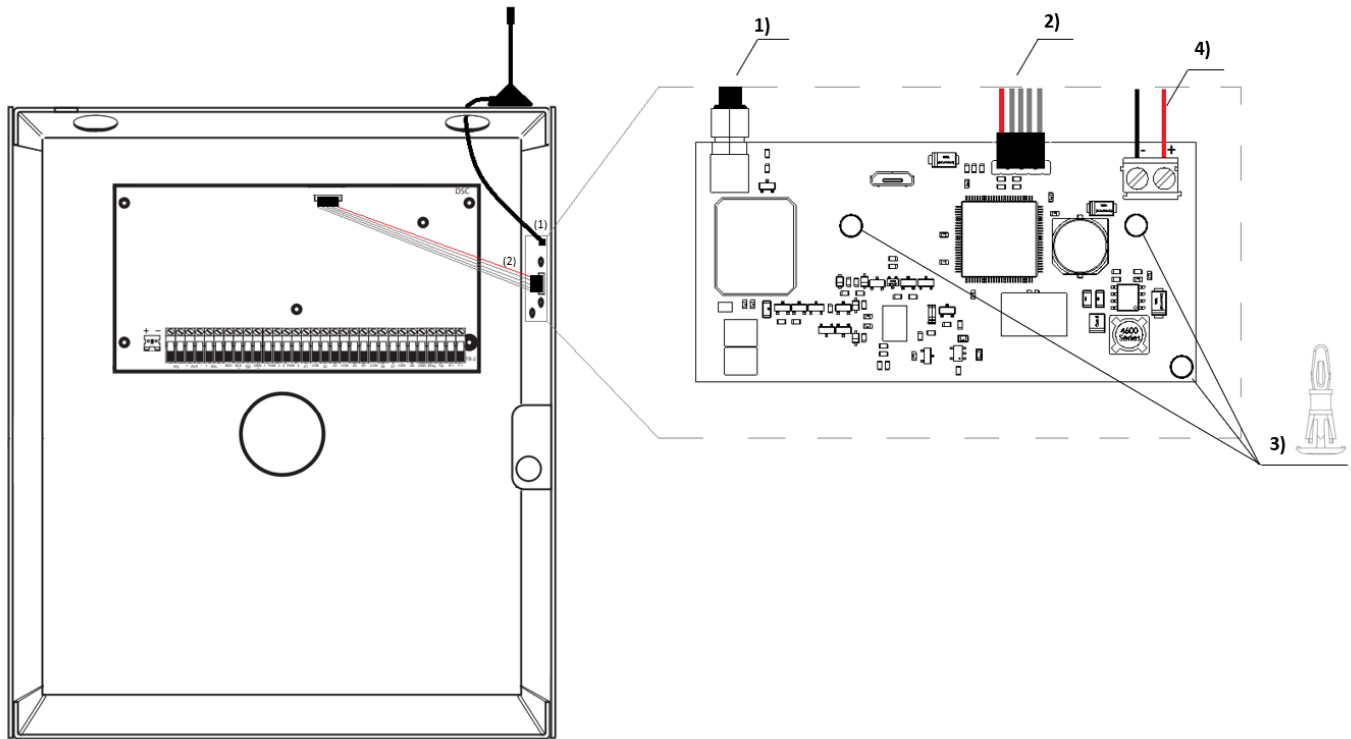

Figure 3: Mounting Diagram – 1) GSM Antenna connector, 2) PCLINK Cable, 3) Plastic Standoff for DSC metal Enclosure, 4) Power Supply Cable
1. Mount the communicator using the provided plastic standoffs as shown on Figure 3 above.